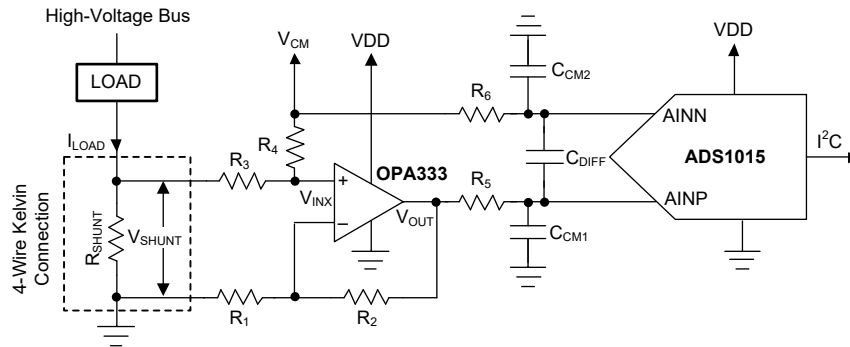

Figure 29. Low-Side Current Shunt Monitoring
Shunt-based, current-measurement solutions are widely used to monitor load currents. Low-side, current-shunt measurements are independent of the bus voltage because the shunt common-mode voltage is near ground. Figure 29 shows an example circuit for a bidirectional, low-side, current-shunt measurement system. The load current is determined by measuring the voltage across the shunt resistor that is amplified and level-shifted by a low-drift operational amplifier, OPA333. The OPA333 output voltage is digitized with ADS1015 and sent to the microcontroller using the I²C interface. This circuit is capable of measuring bidirectional currents flowing through the shunt resistor with great accuracy and precision.
1. To level-shift the ground-referenced signal to allow bidirectional current measurements while running off a unipolar supply. The voltage across the shunt resistor, V_{SHUNT} , is level-shifted by a common-mode voltage, V_{CM} , as shown in Figure 29. The level-shifted voltage, V_{INX} , at the noninverting input is given by Equation 3.
A shunt resistor (R_{SHUNT}) is an accurate resistance inserted in series with the load as shown in Figure 29. If the absolute voltage drop across the shunt, $|V_{SHUNT}|$, is a larger percentage of the bus voltage, the voltage drop may reduce the overall efficiency and system performance. If $|V_{SHUNT}|$ is too low, measuring the small voltage drop requires careful design attention and proper selection of the ADC, operation amplifier, and precision resistors. Make sure that the absolute voltage at the shunt terminals does not result in violation of the input common-mode voltage range requirements of the operational amplifier. The power dissipation on the shunt resistor increases the temperature because of the current flowing through it. To minimize the measurement errors due to variation in temperature, select a low-drift shunt resistor. To minimize the measurement gain error, select a shunt resistor with low tolerance value. To remove the errors due to stray ground resistance, use a four-wire Kelvin-connected shunt resistor, as shown in Figure 29.